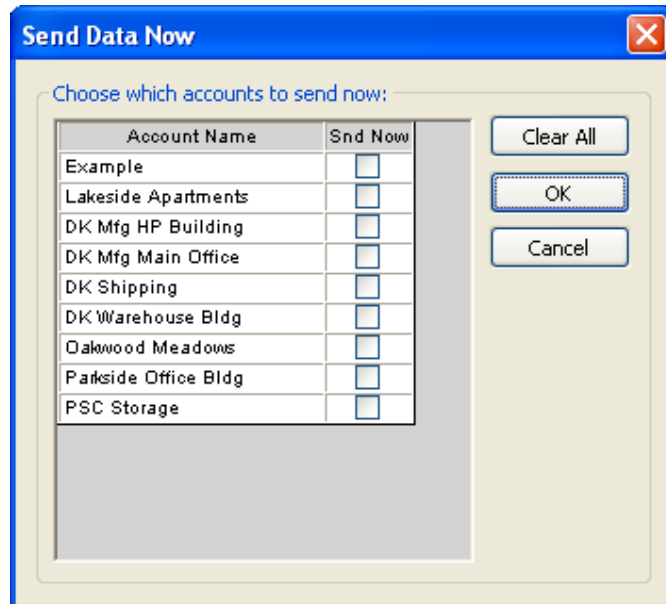

Figure 52
2. Start with ER1. Select which elevator(s) ER1 will be applied to. In figure 52, ER1 is applied to elevators 1 and 2, which means that visitors of residents with 1 programmed in the ER field are limited to using elevators 1 and 2 only.
2. Select the account(s) that you are sending data to (Fig 52) by checking the Snd Now box.